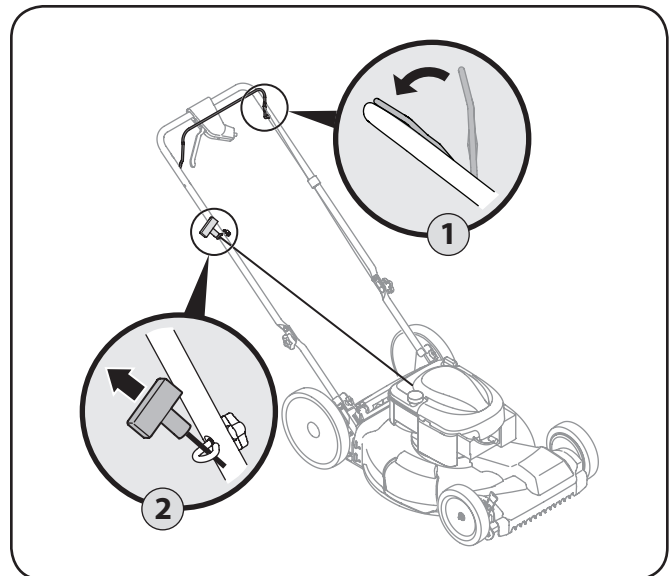

Figure 5-2
1. Standing behind the mower, squeeze the blade control against upper handle. See Fig. 5-2.
2. Holding these two handles together firmly, grasp recoil starter handle and pull rope out with a rapid, continuous, full arm stroke. See Figure 5-2. Keeping a firm grip on the starter handle, let the rope rewind slowly. Repeat until engine cranks. Let the rope rewind each time slowly.